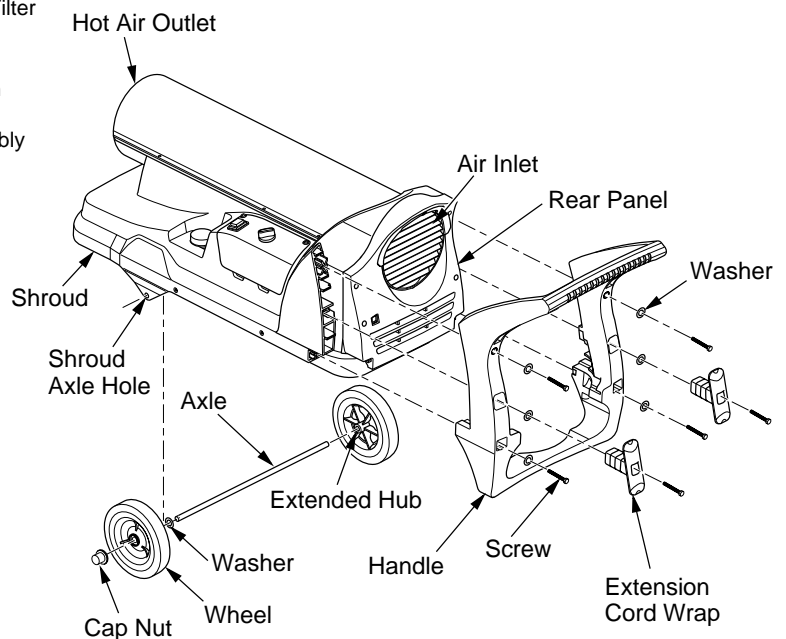

Figure 3 - Wheel and Handle Assembly
1. Apply a couple drops of oil in shroud axle holes. Slide axle through shroud with a twisting motion. Install washers and wheels on axle as shown in Figure 3.
IMPORTANT: When installing wheels, point extended hub of wheels toward shroud (see Figure 3).